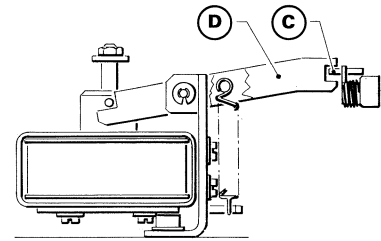

Figure 5.7
- Insert finger C in slot D. Figure 5.7